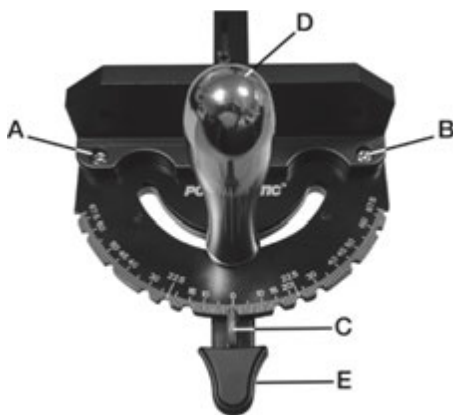

Figure 8-3C
2. Loosen screws A and B as shown in Figure 8-3C.
Adjusting Miter Gauge Angle for Operations (model PM2000BT, refer to Figure 8-3C):